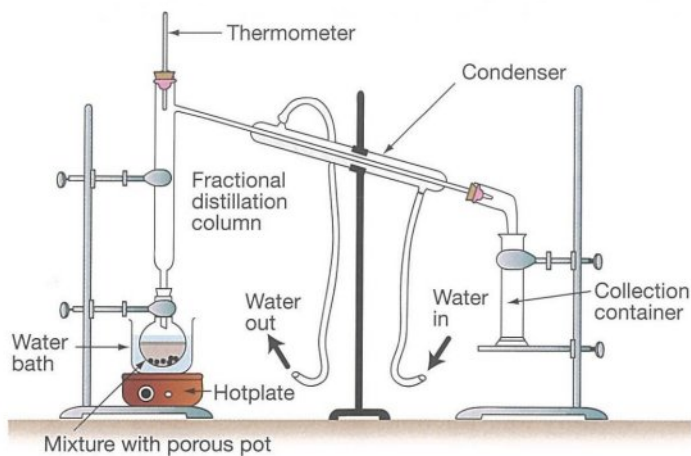

Figure 22.1 Fractional distillation.
Fractional distillation is a method of separating the components of a mixture containing two or more liquids or gases. Its use depends on the components having different **boiling points**. Figure 22.1 shows typical equipment used in a school laboratory to carry out fractional distillation to separate the components of a mixture of liquids.
- A condenser is always set up so that the cooling water goes into the bottom of the condenser and comes out of the top, as shown in Figure 22.1.
- Explain why the mixture being distilled in Figure 22.1 is being heated with a hot water bath rather than with a direct Bunsen flame.